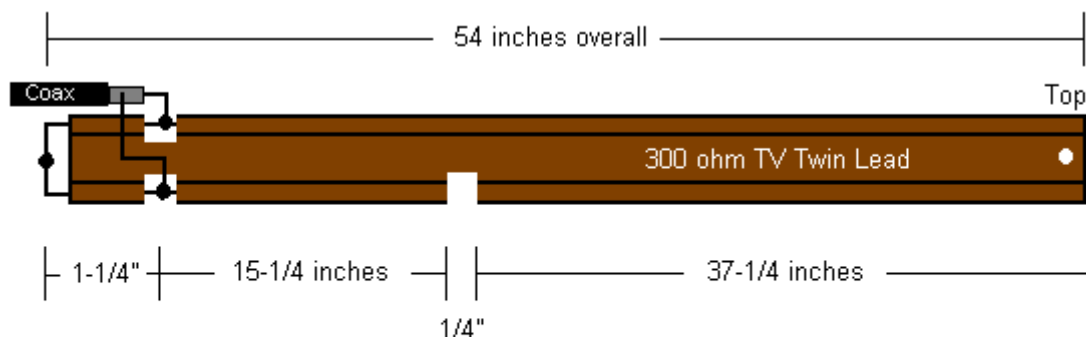

Figure 1. J-pole
- Next, measure up 1-1/4 inches from the bottom and carefully remove the insulation, exposing both wires, as shown in Figure 1. Keep the notches small (1/8" or so) and be careful not to cut the wires. This is where we will be attaching the coax later.
- Now, attach your coax as shown in Figure 1. [*Note: A ferrite bead (type 43 material) can be placed over the outside of the coax near the feedpoint to choke off any RF that might get coupled onto the coax shield.*]